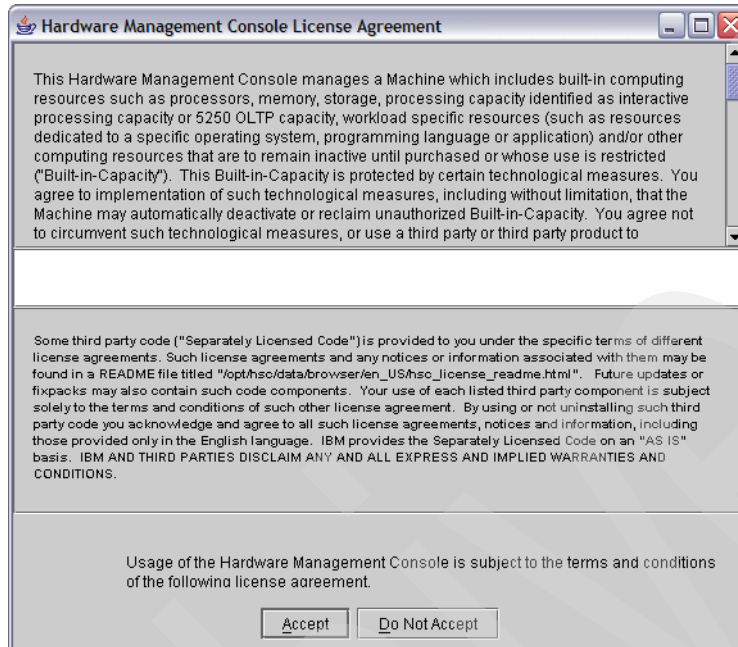

Figure 14-43 HMC License Agreement screen - upgrade release
- The Hardware Management Console License Agreement panel is then shown (Figure 14-43).